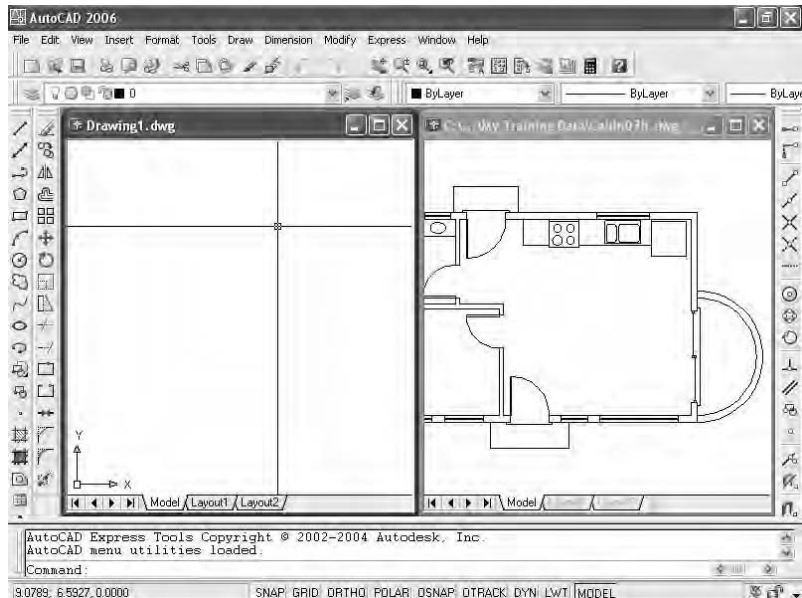

FIGURE 7.35: The user interface with two drawings tiled
2. Choose Window > Tile Vertically. The new drawing (called Drawing1) appears alongside Cabin07b (see Figure 7.35).